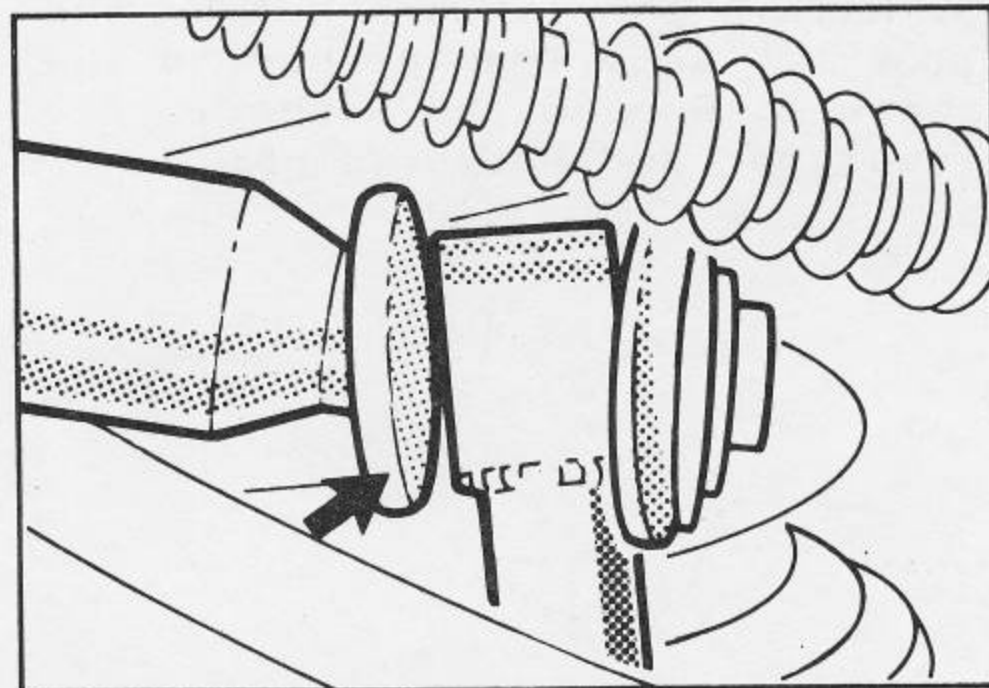

Fig.51 Remove drop link bush.
3. Remove bush from drop link. Fig.51